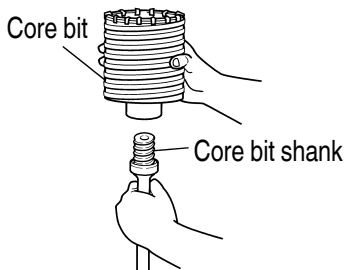

Fig. 24
- (1) Mount the core bit to the core bit shank. **(Fig. 24)**